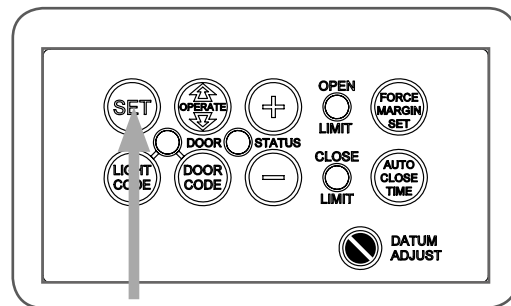

fig 36
- Press and hold the SET Button for two (2) seconds, the beeper will sound once (**Fig.36**).
- The door will start to move and re-calculate force margins. The door can move between the open and close limit positions up to four (4) times (depending on the position of the door and the power up condition).